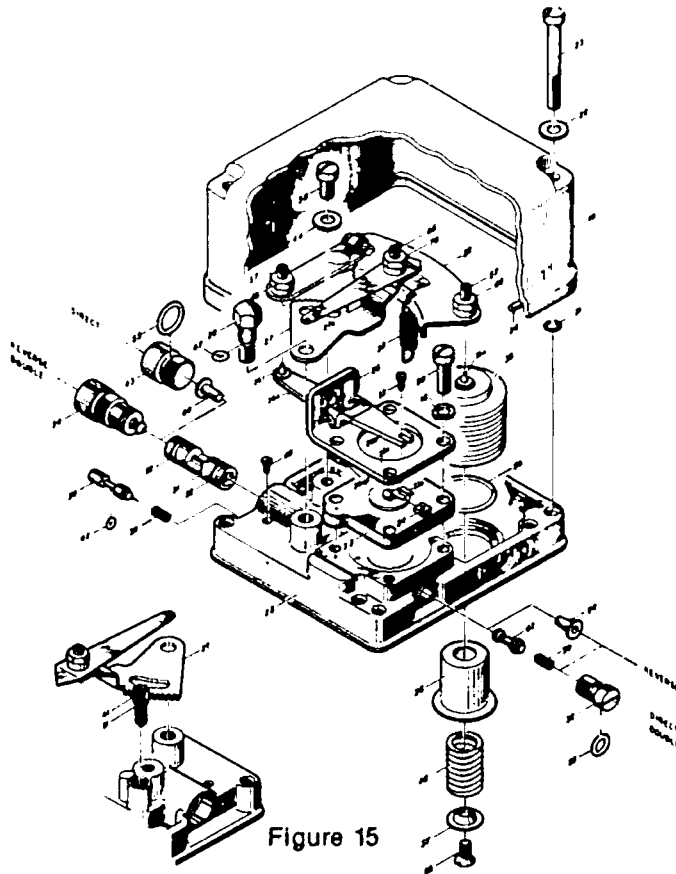

Figure 15
### Control Module (1) (Figure 15)